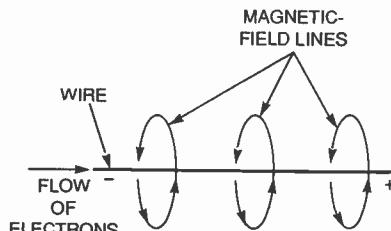

Fig. 2. Magnetic-field lines are perpendicular to the current flow that generates them.
The Sterba curtain array is a well-known antenna in the shortwave-broadcasting world. It consists of a number of half-wave dipoles in an array that transmits broadside to the plane of the dipoles. Although shortwave broadcasters use huge Sterba curtain arrays, amateur-radio hams can make relatively simple Sterbas using only a few elements (as shown in Fig. 2).
*Fig. 2. A Sterba curtain array, shown here, uses only three loops, and is fed in the center by a balun and coaxial cable. Note the matching A and B lengths in the assembly.*
Magnetic-field lines are drawn quite differently. They are drawn perpendicular to the force of attraction or repulsion. They are also perpendicular to the current flow that generates them. However, just like lines of electric force, the more dense the lines, the stronger the magnetic field. Figure 2 illustrates the concept. There, the electrons flow in a straight line, producing a cylindrical magnetic field around the wire.